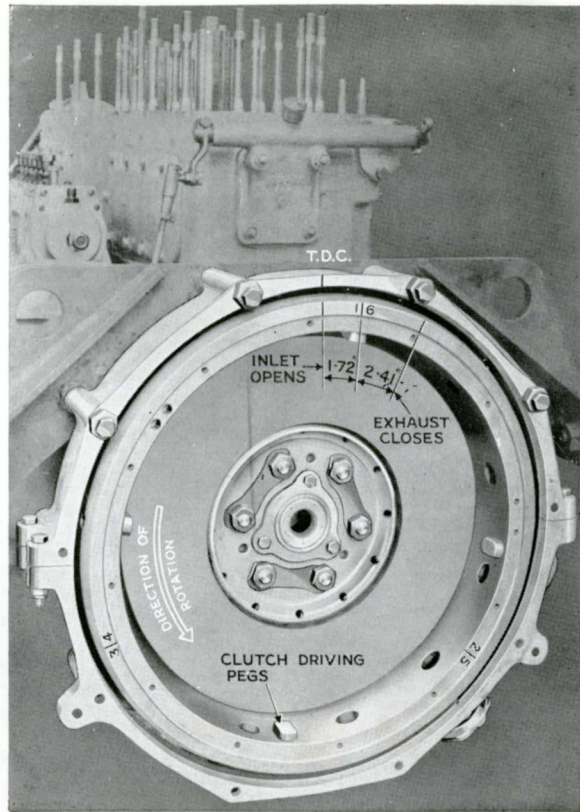

FIG. 24. VALVE TIMING MARKS ON FLYWHEEL
3. Now turn the engine until the inlet valve of No. 6 cylinder just opens. To check when the inlet valve is just opening, hold the valve collar between thumb and forefinger and attempt to turn. When the valve lifts off its seat, the collar will turn. If the timing is correct, the valve should open 1.72 in. (43.7 mm.) before T.D.C. measured on the flywheel rim, Fig. 24.